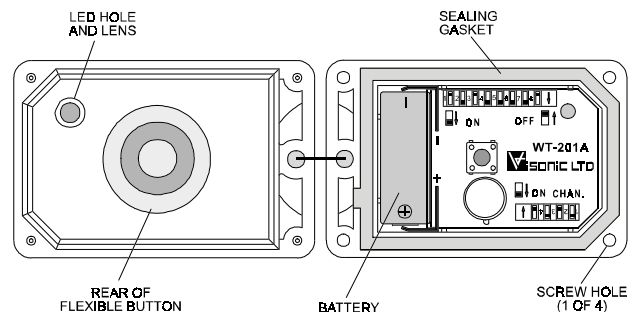

Figure 3. Inside View of the WT-201WP
- (1) Separate the two halves of the case and lay the unit down on its back as shown in Figure 3. Insert the 12V battery between the battery clips. Observe polarity!
- (3) Gently press the pushbutton switch and verify that the LED lights, indicating good battery condition.
- (4) Reassemble the two halves of the case and lay the unit face down. Put a screw in each of the four holes on the back (screws are supplied in a small bag packed with the unit). Carefully tighten all 4 screws with phillips screwdriver No. 1. The unit should now be watertight and ready for use.